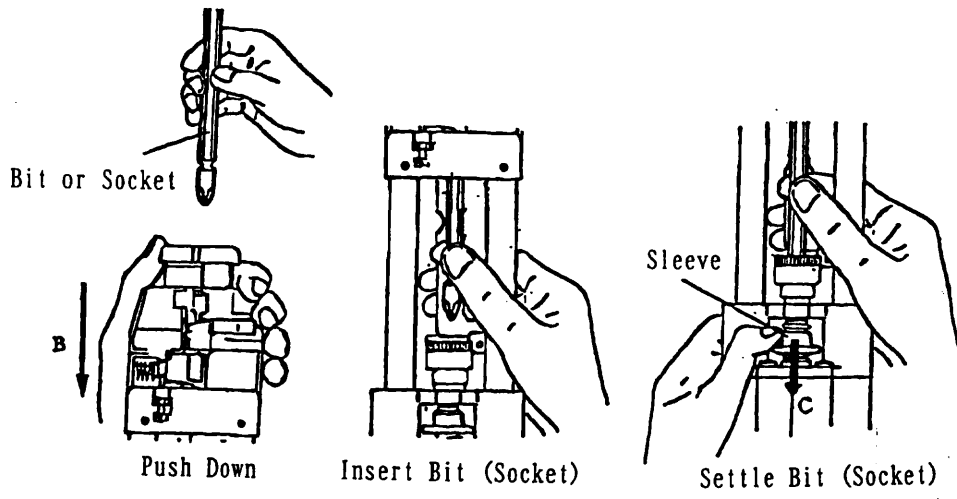

Fig. 11
- (i) Inserting the bit - Shift the feeder block about 30mm (1.18") in the 'B' direction as shown in figure 11. Pass the bit through the feeder block center hole, through the adjustor ring and align with the hexagonal sleeve hole. Push the sleeve about 4mm (0.16") in the 'C' direction and slide the bit fully into the hole. Release the sleeve to fix the bit in place. Check that the bit is fully secured.